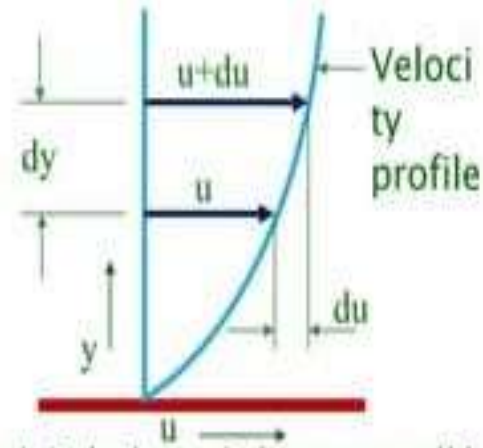

Fig.1: Velocity variation near a solid boundary
- Consider two layer of a fluid , a distance ' $dy$ ' apart, move one over the another at a different velocity, say ' $u$ ' and ' $u+du$ ' as show in fig.1 :